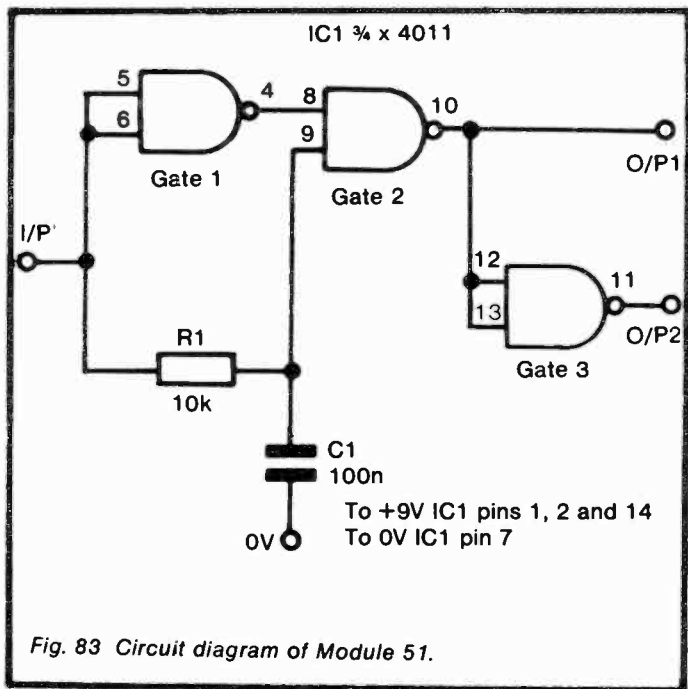

Fig. 83 Circuit diagram of Module 51.
*Circuit diagram:* see Figure 83.